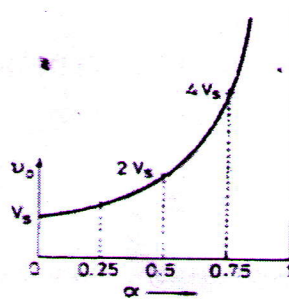

Fig. 2.
- 17 a) The graph showing the variation of output voltage, V_o with duty cycle, α shown in Fig.2. corresponds to which dc-dc converter? Explain its working with a circuit diagram. (8)